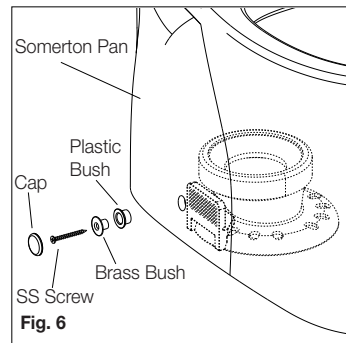
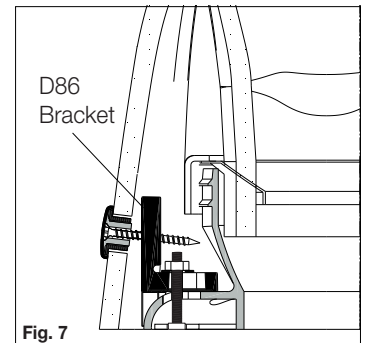

Fig. 6
Fig. 7
- 8- Insert the plastic bush, brass bush into the Pan fixing hole as shown in **Fig.6**. Secure the bushes through the holes in bracket as shown in **Fig. 7**. Cover it with Cap.